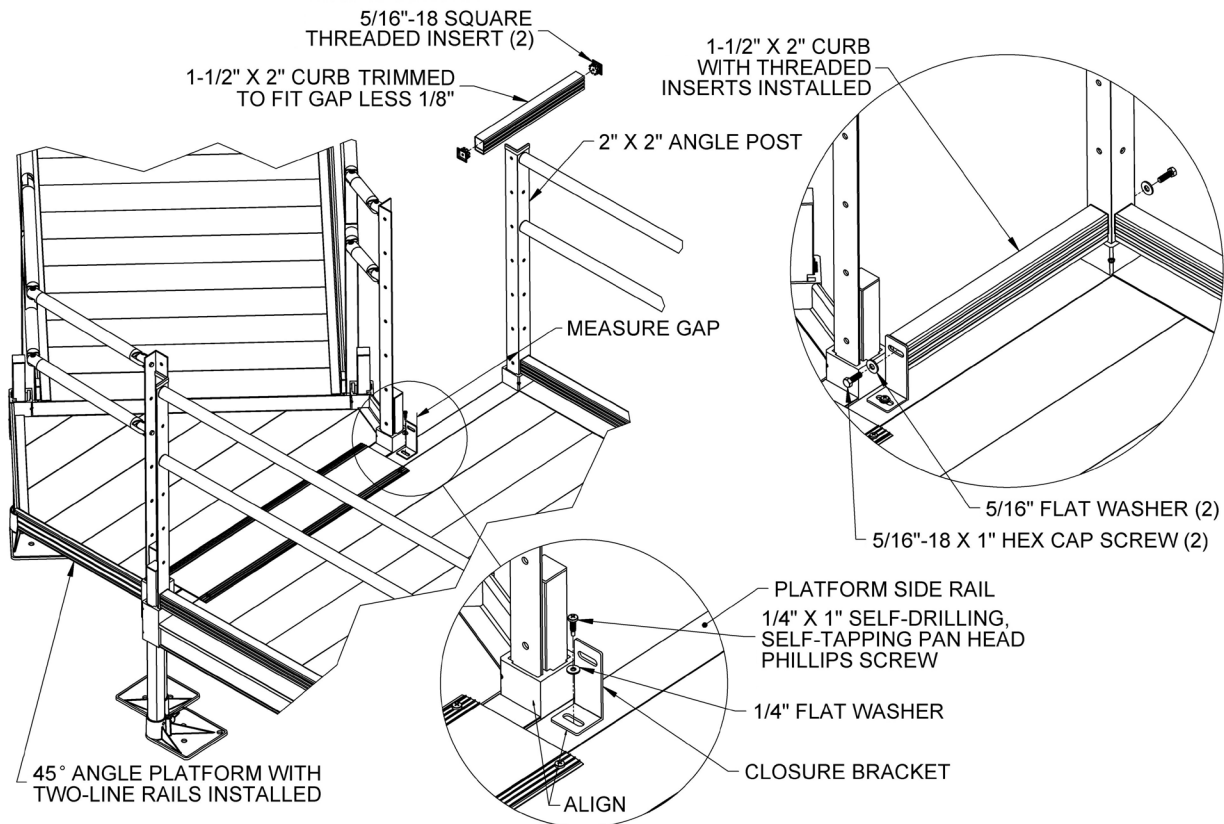

FIG. 7.24
- 7.9.10. Center the long leg of the closure bracket with respect to the 2" x 2" angle post and align the short leg (approximately) with the 45-degree Angle Platform corner pocket, then screw the short leg to the platform side rail using a 1/4" x 1" self-drilling, self-tapping pan head Phillips screw and 1/4" flat washer (FIG. 7.24).
- 7.9.11. Measure the gap between the long leg of the closure bracket and the 2" x 2" angle post, then trim the 1-1/2" x 2" curb to the measured gap length less 1/8" to account for the threaded inserts which will be installed after trimming (FIG. 7.24).
- 7.9.12. Deburr all sharp edges from trimming the curb and insert 1-1/2" square, 5/16"-18 threaded inserts in the ends. Use a rubber mallet or similar tool to fully seat the threaded inserts (FIG. 7.24).
- 7.9.13. Attach the 1-1/2" x 2" curb to the closure bracket and the 2" x 2" angle post using 5/16"-18 x 1" hex cap screws and 5/16" flat washers (FIG. 7.24).